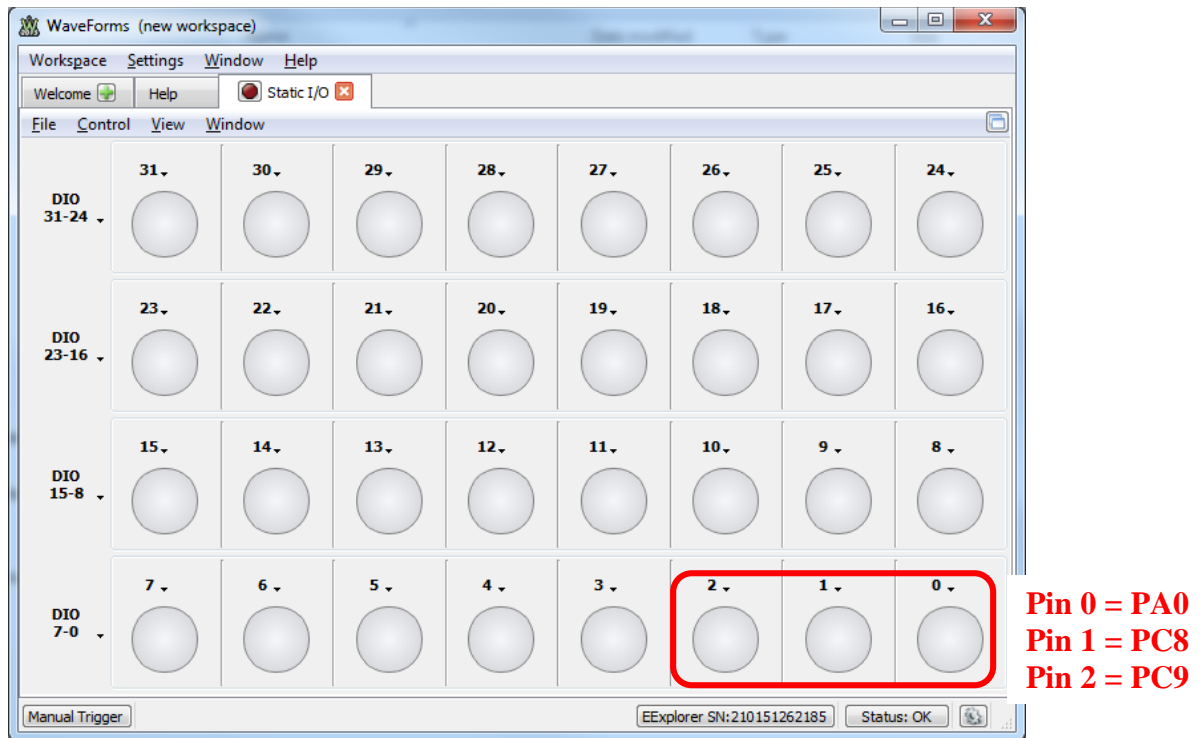

Figure 4. WaveForms Static I/O Instrument
- Launch the *Static I/O* instrument in *WaveForms* (Figure 4.)
- By right-clicking on each (see Figure 4), configure Digital I/O pins DIO0, DIO1 and DIO2 as LEDs. If you wish, you may remove DIO31-24, DIO23-16, and DIO15-8 from the *Static I/O* display via the "Config" buttons at the left.